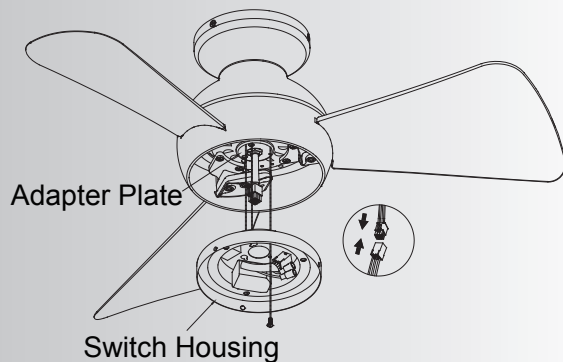

Fig. 12
**Step 3.** Remove one of the three screws in the adapter plate at the bottom of the motor assembly and retain the screw for later use. Slightly loosen the remaining two screws. Place the motor connector through the center hole of the switch housing. Rotate the switch housing key hole slots clockwise to engage both loosened screws. Reinstall the previous removed screw. Secure the switch housing to the adapter plate by tightening the three screws. (Fig. 12)